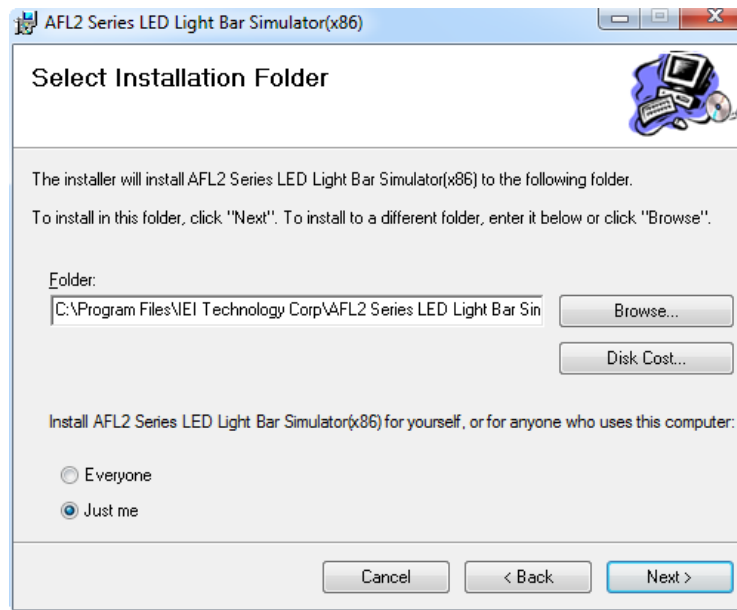

Figure 2-2: Select Installation Folder Screen
Step 5: The **Select Installation Folder** screen in **Figure 2-2** appears.